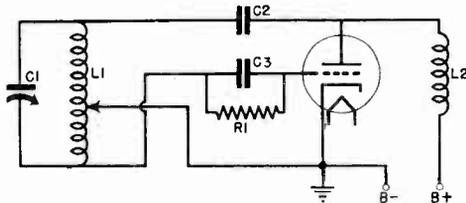

Fig. 2-87
*Ans.* Refer to Fig. 2-87.
The essential feature of a Hartley oscillator circuit is that tuned circuit  $L1-C1$  is made common to both the plate and grid circuits by using a tapped coil. In Fig. 2-87, the lower section of the coil is in the grid circuit (between grid and cathode), while